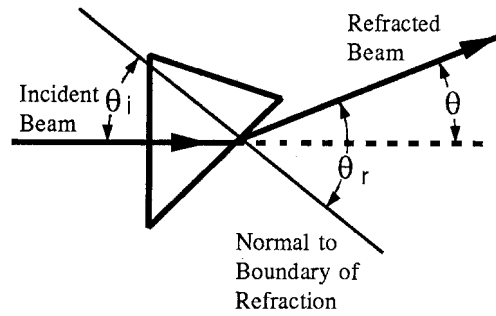

Figure 5: Geometry of Prism Refraction
4. Using the diagram shown in figure 5, determine θ_i and use your value of θ to determine θ_r . (You will need to use a protractor to measure the Prism angles.)
- In the diagram of the figure 5, the assumption is made that the wave is unrefracted when it strikes the first side of the prism (at an angle of incidence of 0°). Is this a valid assumption ?